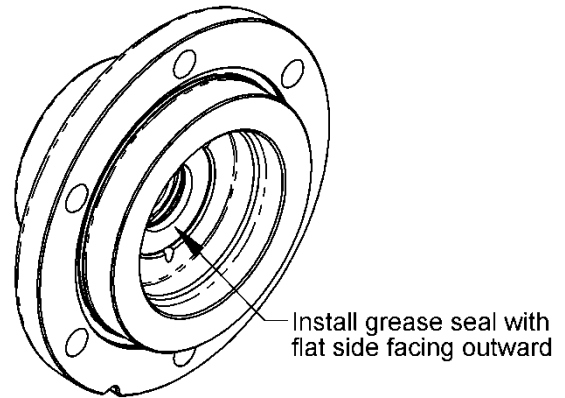

Figure 9. Grease Seal Installation
6. Apply a light coat of grease to the grease seal journal in the inboard head (20).
7. Install new small grease seal (104) into inboard head (20). Flat side of grease seal must face outside of head, with spring and lip side facing inside of head.
8. Install bearing spring (24C) in inboard head (20).
9. Install outer race of bearing (24) into bearing pocket in inboard head (20).
10. Install grease seal (104A) into bearing pocket of head with open side toward bearing and flat side facing outward. Gently push or tap the grease seal until flat face of grease seal is about 1/8" (4 mm) past the larger diameter flat face in head. Refer to Figure 9.